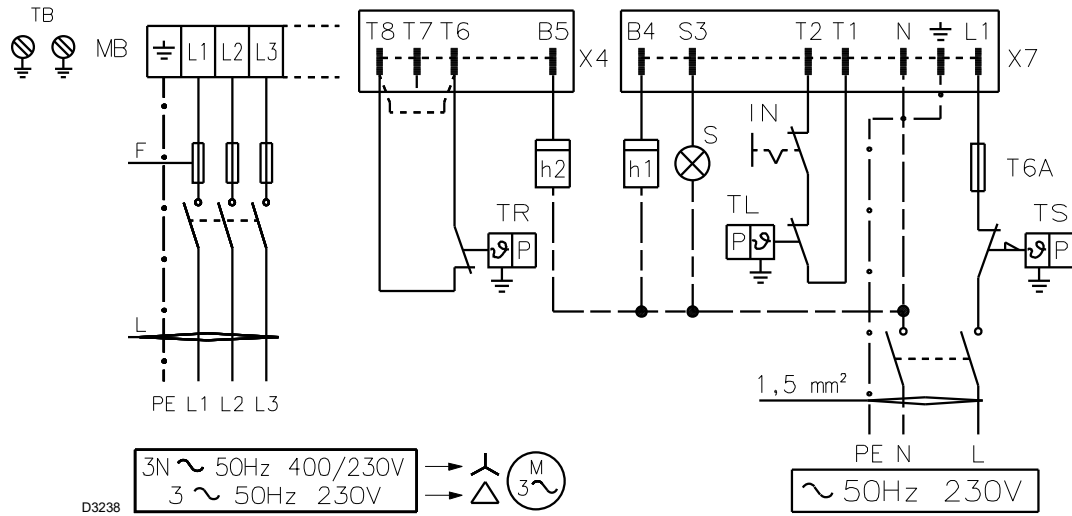

Fig. 21
Fuses and cables cross-section (Fig. 21), see Tab. D.
Alternatively, if single stage operation is required, instead of control device TR install a jumper lead between terminal T8 and T6 (Fig. 21).
Key to layout (Fig. 21)
- The burners are factory set for two-stage operation and must therefore be connected to control device TR. Alternatively, if single stage operation is required, instead of control device TR install a jumper lead between terminals T8 and T6 (Fig. 21).